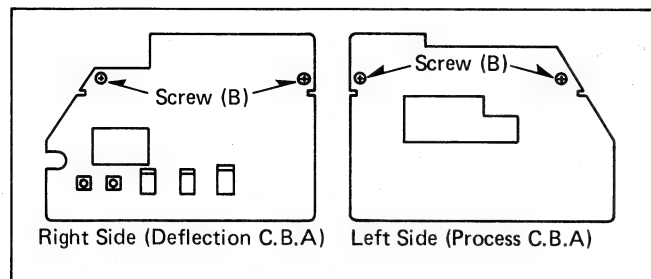

Fig. 2
- 2-3. Opening the Deflection Circuit and Process Circuit Boards Unscrew 4 screws (B) securing the circuit board to the chassis (see Fig. 2).